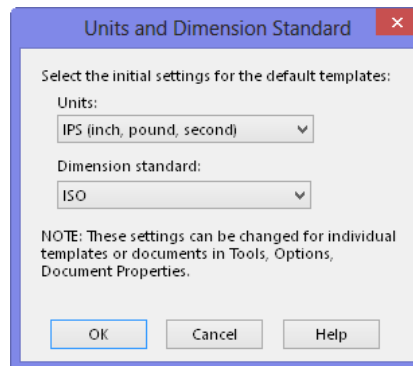

Figure 1-4 The **Units and Dimension Standard** dialog box
*If you are starting SOLIDWORKS 2015 for the first time, then on invoking the **New SOLIDWORKS Document** dialog box, the **Units and Dimension Standard** dialog box will be displayed, as shown in Figure 1-4. Using this dialog box, you can specify the default units and dimension standards for SOLIDWORKS. In this book, the unit system used is MMGS (millimeter; gram, second) and the dimension standard used is ISO.*